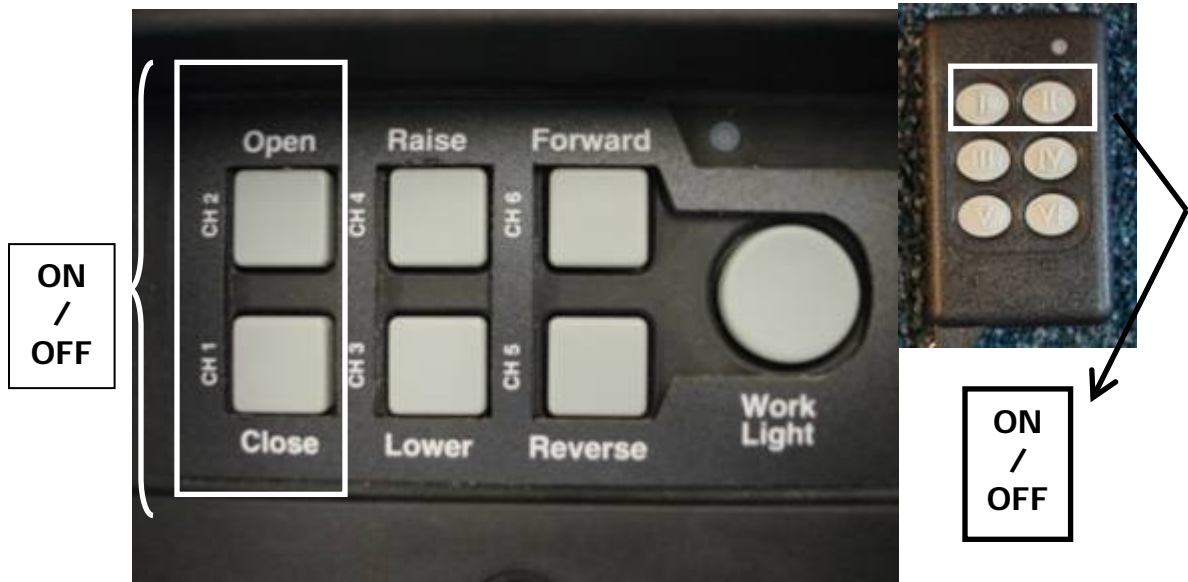

Figure 9
- 1) On all systems with remote control operation you must turn on the control box. To activate (power up or down) the control box you must press and hold buttons one and two on the control box or the key fob (see Fig. 9). Non remote control systems are always active.
- 3) Press and hold button I (see figure 9 below) on the first key fob for 2 seconds then release. Press button I for 2 seconds on the second key fob. Repeat for each additional key fob that is to be programmed.